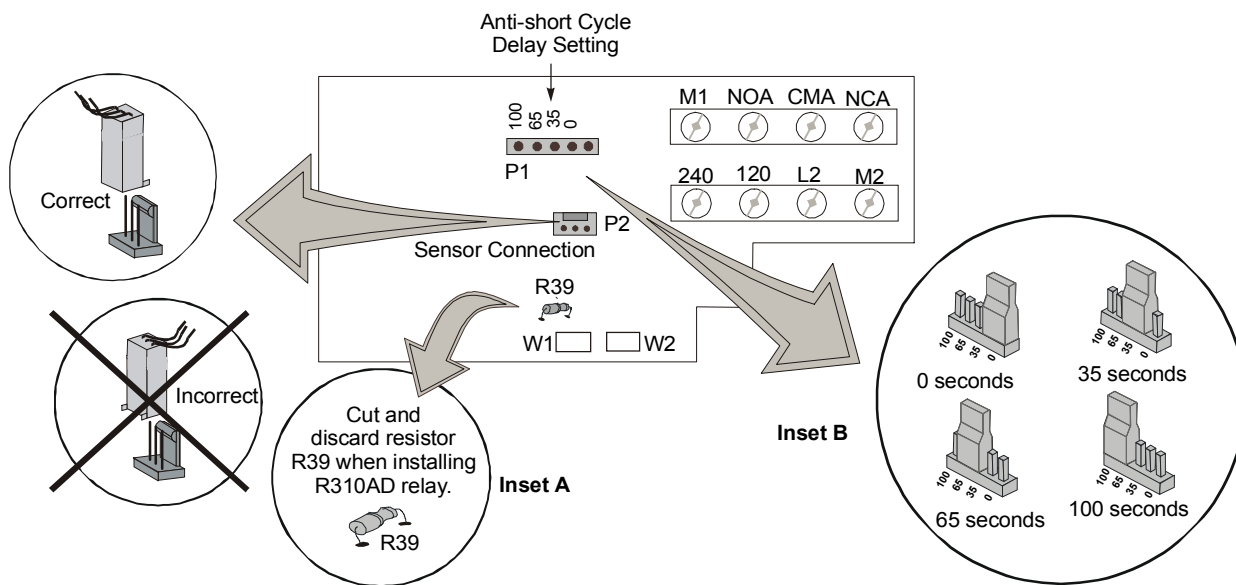

Figure 6: Terminal Designations and Jumper Positions for Anti-Short Cycle Delay
2. Connect the wiring harness to the P445 control at P2. See Figure 6 for the location and orientation of the sensor connection.
Install the R310AD relay after the main contactor on one of the compressor power leads, and wire to terminals W1 and W2 on the P445 control. In addition, remove resistor R39 by cutting the leads to the circuit board. See Figure 6.
The anti-short cycle delay timer is set to 100 seconds at the factory. For a different delay, move the jumper at P1 to the desired position. (See Figure 6, Inset B.)
Note: On systems using the R310AD current sensing relay, remove relay connections to control terminals W1 and W2, and connect a jumper between those two terminals. (See Figure 6.)
7. De-energize the supply voltage. Reconnect the compressor leads to the contactor, or reset the disconnect. If an R310AD relay is used, remove resistor R39 and connect the relay leads to terminals W1 and W2 on the control. See Figure 6.